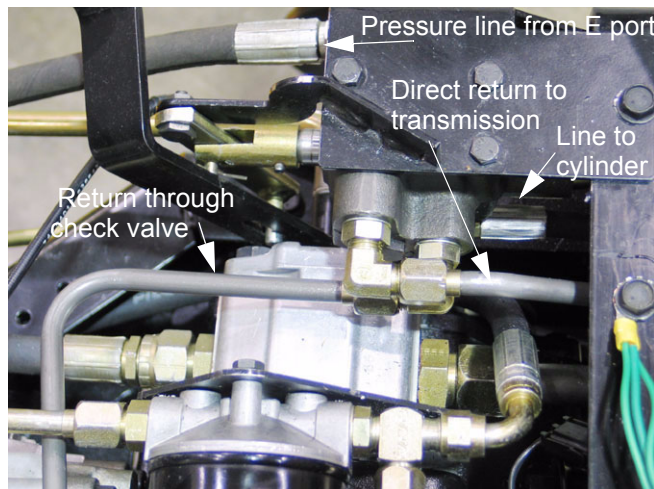

Figure 8.1
- 8.1. If the hydraulic lift cylinder does not work or is low on power, begin by making a visual inspection of the valve, cylinder, linkage, and hydraulic hose. See Figure 8.1.